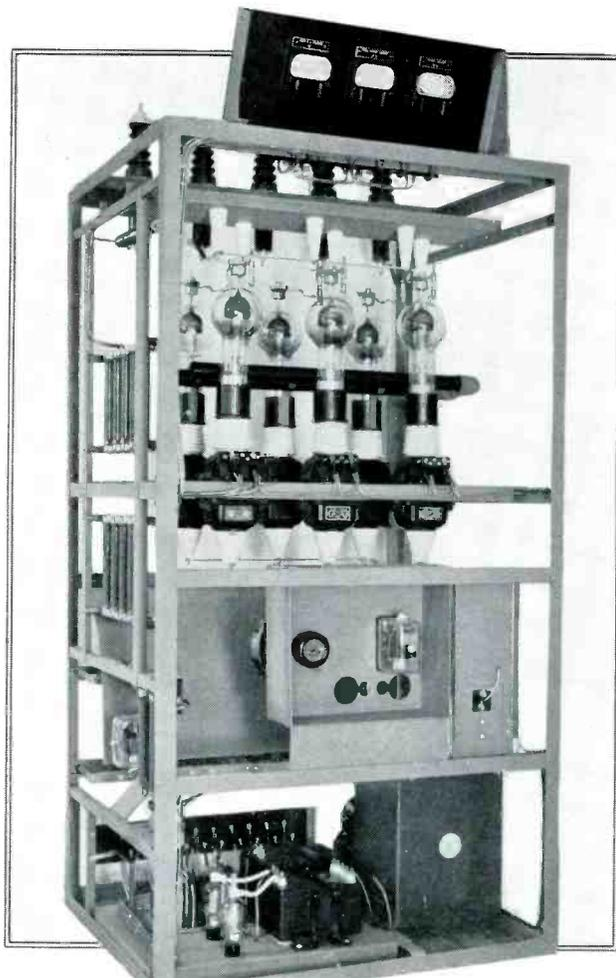

FIG. 10. THE 15,000-VOLT RECTIFIER, SUPPLYING THE 50-KW. AMPLIFIER. THIS UNIT IS MARKED C IN THE FLOOR PLAN, FIG. 8
- C—15,000-volt rectifier, shown in Fig. 10.